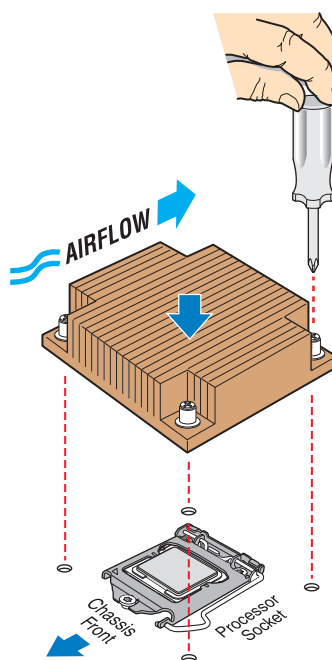

Figure 17. Installing the Heatsink Assembly
2. Orient the heat sink over the processor as shown in Figure 17. You must position the fins as shown to provide correct airflow through the system.